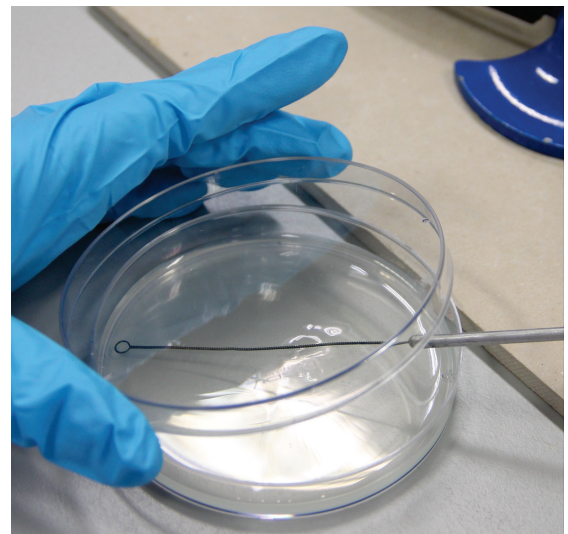
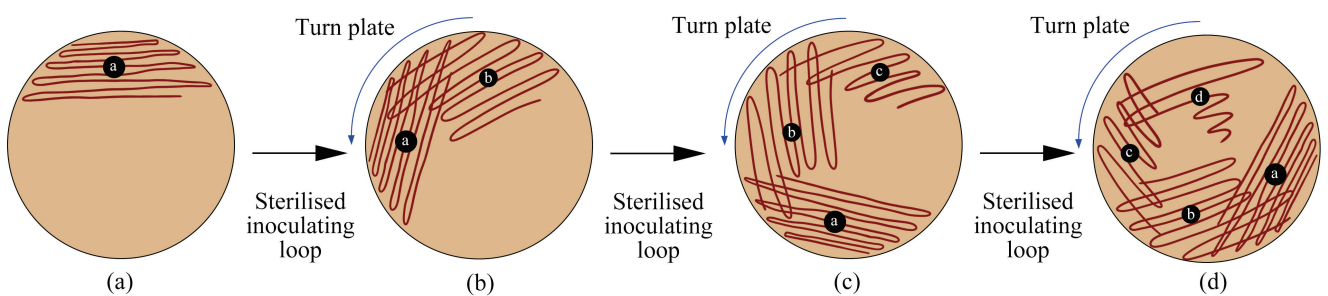

Fig. 5
Fig. 6: Streak isolation pattern of *E. coli*
7. As the *E. coli* bead gets dissolved by the recovery broth, use a new sterile inoculating loop* to streak the first quadrant (Fig. 6 part (a)) of the agar plate in a zigzag pattern as shown in Figs. 5 and 6a.